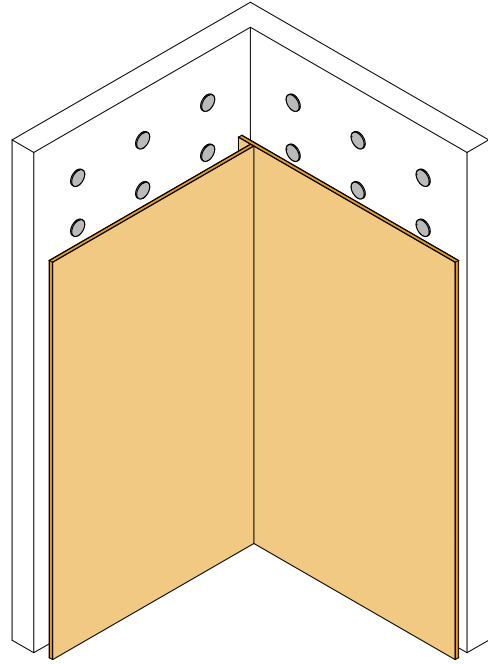

FIGURE 9: Corner fitting
13. At corners, the most common method is to overlap the panels. (fig. 9)